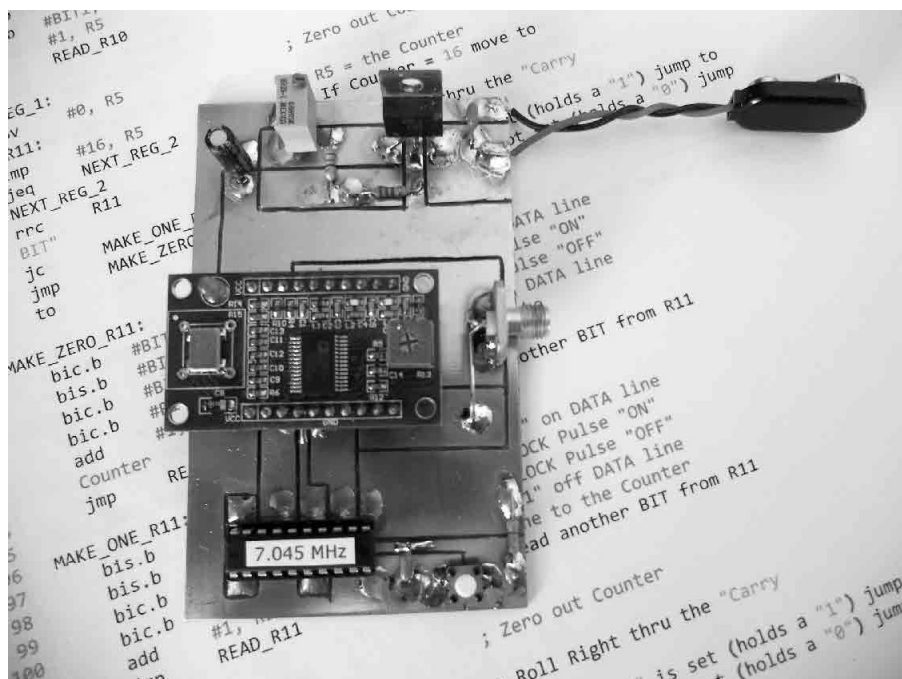
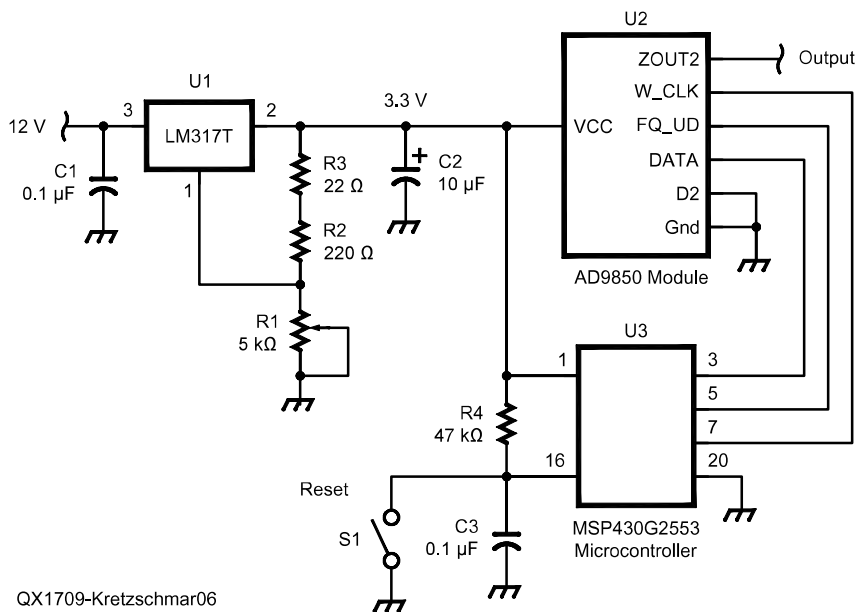

Figure 5 — Fixed frequency signal generator showing the MSP430G2553 microcontroller, AD9850 module,
Figure 6 — Schematic diagram of the fixed frequency signal generator.
The Fixed Frequency Signal Generator is comprised of three sections, (1) the microcontroller, (2) the AD9850 module, and (3) a voltage regulator (see Figure 5 and Figure 6). The board template and parts placement diagram can be found in *QEXfiles* web page. Following the schematic diagram of the MSP430 LaunchPad, one tactile switch was connected from pin 16 of the microcontroller to ground for a reset of the MSP430G2553 if needed. To mount the AD9850 module, two 10-pin female header receptacles were used. On both the 20-pin microcontroller socket and the header receptacles, the unused pins were pulled out to make the board design and soldering easier. Pins 10 and 11 of the microcontroller socket have no electrical connections and are used solely to anchor the IC socket. The LM317T variable voltage regulator was chosen so that it could be set to 3.3 V, the same voltage available on the MSP430 LaunchPad.